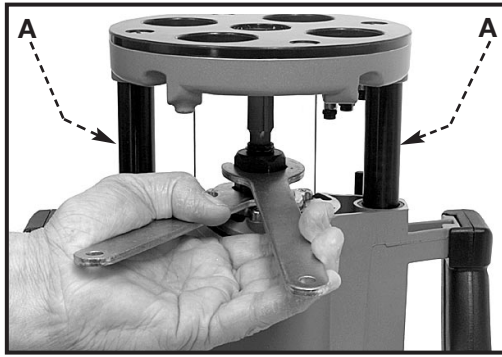

Fig. 3
1. Place the router upside down on its motor cap (see Fig. 3).
3. Place one wrench on the flats on the chuck and one wrench on the collet nut (see Fig. 3). Tighten firmly.
Do not allow the wrenches to contact the columns (A) Fig. 3. If the columns are damaged, the plunge action will be restricted.